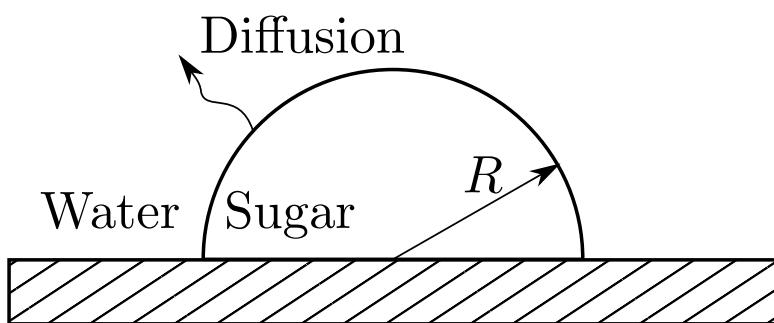

Figure 26: The lump of dissolving sugar.
- b) A hemispherical lump of sugar, initially of radius  $R = 0.005$  m, is dropped into a cup of tea, quickly coming to rest on the bottom of the cup as shown in Fig. 26. The sugar lump then slowly dissolves into the tea. The diffusion coefficient of sugar in tea is  $4 \times 10^{-10}$  m2 s-1. The saturation mole fraction of sugar in tea is 0.1 and the total molar density of the system is  $c = 55 \times 10^3$  mol m-3.